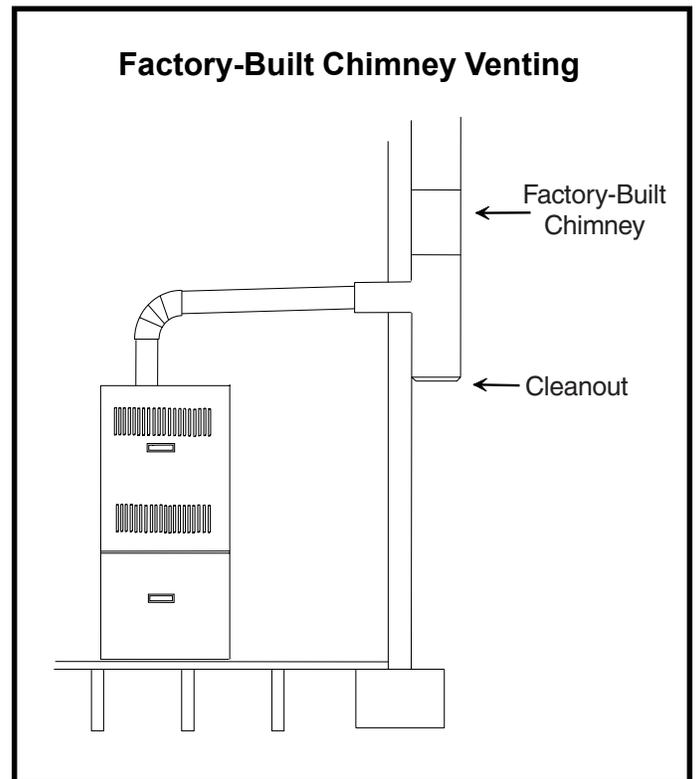

Figure 10
15. All vent pipe run through unconditioned areas or outside shall be constructed of factory-built chimney sections (see Figure 10 on page 7).